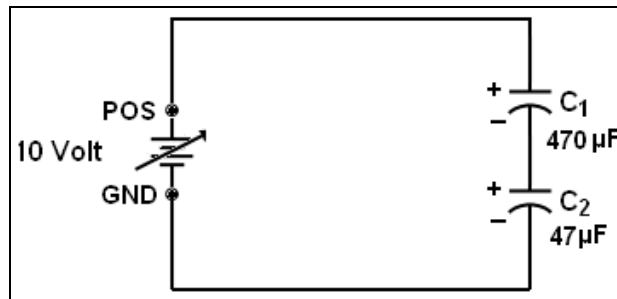

Fig. 2-1 Step 2
2. Construct the circuit shown in Fig. 2-1.